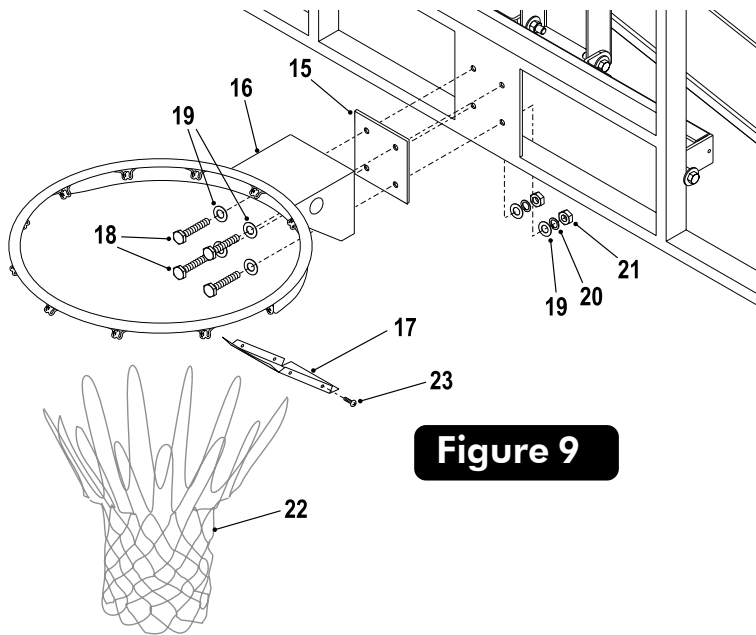

Figure 9
14. Remove protective backboard covering and mount Goal Assembly (#16) and Rim Pad (#15) to Backboard, as shown in Figure 9, using four bolts (#18), eight washers (#19), four lockwashers (#20) and four nuts (#21). Tighten fasteners finger tight, leave them loose enough to level rim.
16. Attach Rim Cover Plate (#17) using four screws (#23). See Figure 9. **CAUTION! Never use rim with coverplate removed!**